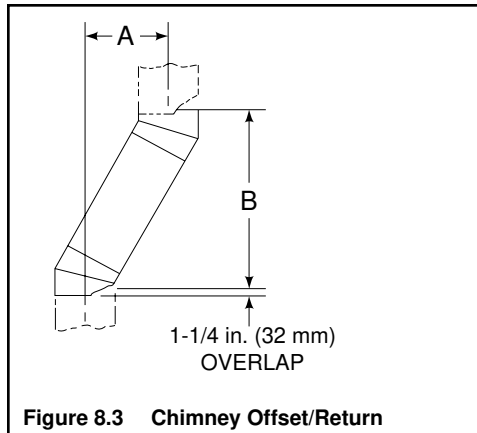

Figure 8.3 Chimney Offset/Return
- Measure the shift needed to avoid the overhead obstruction. Refer to dimension A in Figure 8.3.
Your “A” dimension from Figure 8.3 is 14 1/2 in. (368 mm). Using Table 8.2 the dimension closest to, but not less than 14 1/2 in. (368 mm) is 14 1/2 in. (368 mm) using a 30° offset/return.